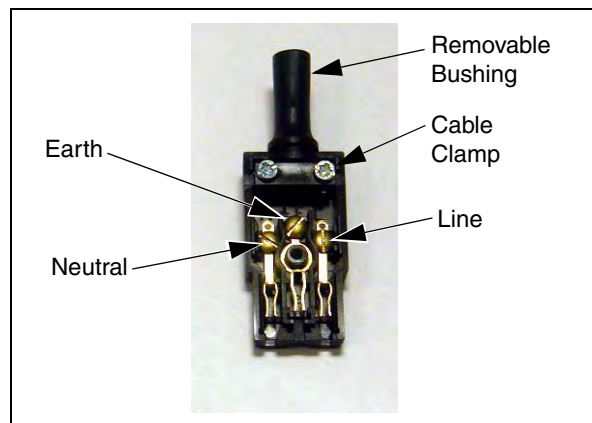

Figure 4-5. AC Power Mating Connector
3. Loosen the two screws on the cable clamp. See Figure 4-5 on page 49.